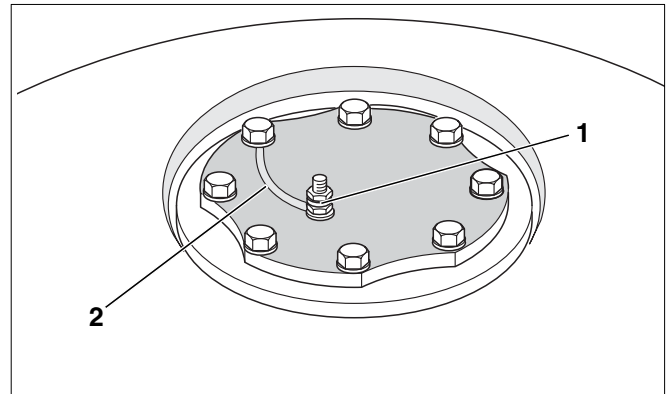

Fig. 6 Checking the magnesium anode connection
- Check that the ground wire (Fig. 6, **Item 1**) for the magnesium anode (Fig. 6, **Item 2**) is correctly connected.